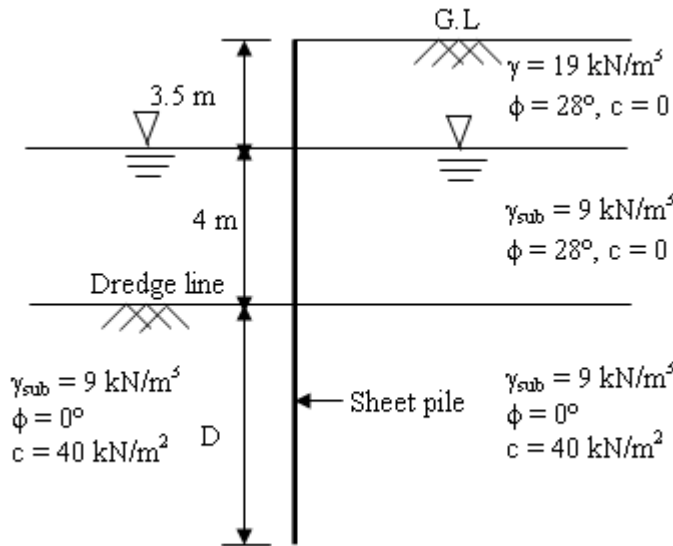

Fig 6.
33. Provide the suitable depth of penetration of the cantilever sheet pile (as shown in Fig6) such that a minimum factor of safety 1.3 can be achieved. Consider the effect of water in both the sides.